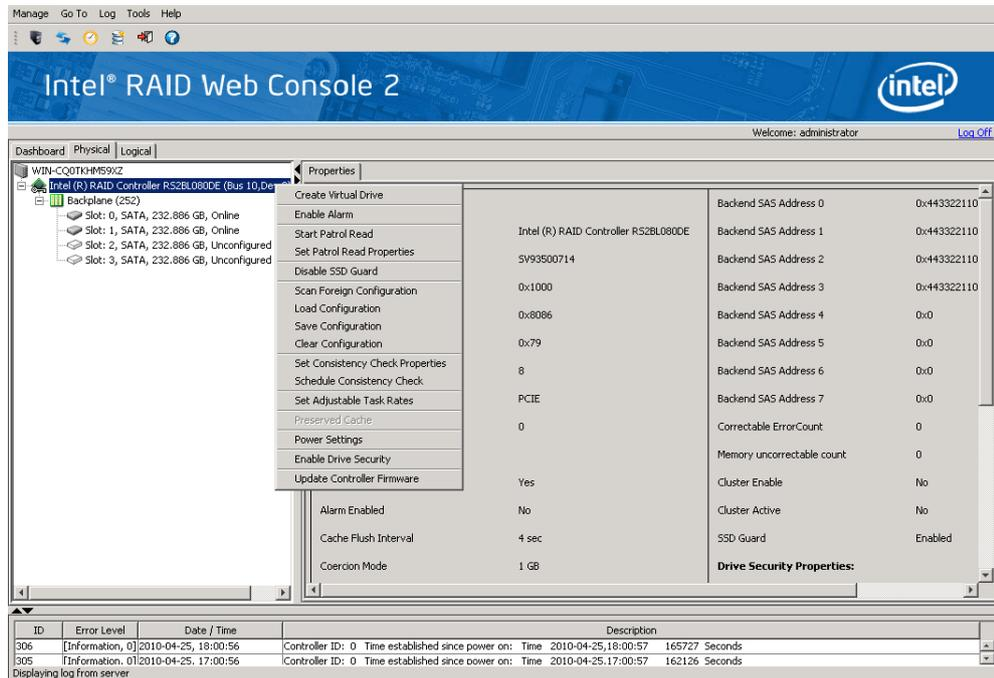

Figure 100. Virtual Drive Creation Menu
- Select the controller node and select Go To -> Controller -> Create Virtual Drive in the menu bar, as shown in Figure 100